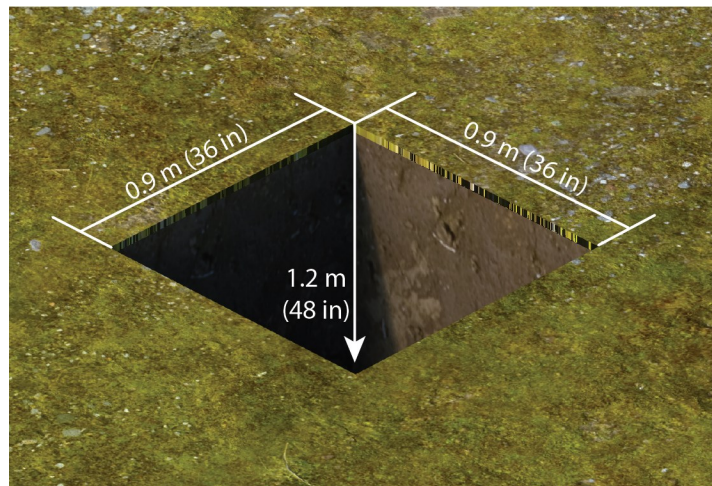

FIGURE 7-3. Hole prepared for tower base
1. Dig a hole 0.9 m (36 in) square and 1.2 m (48 in) deep where the tower base will be located (FIGURE 7-3 (p. 11)).